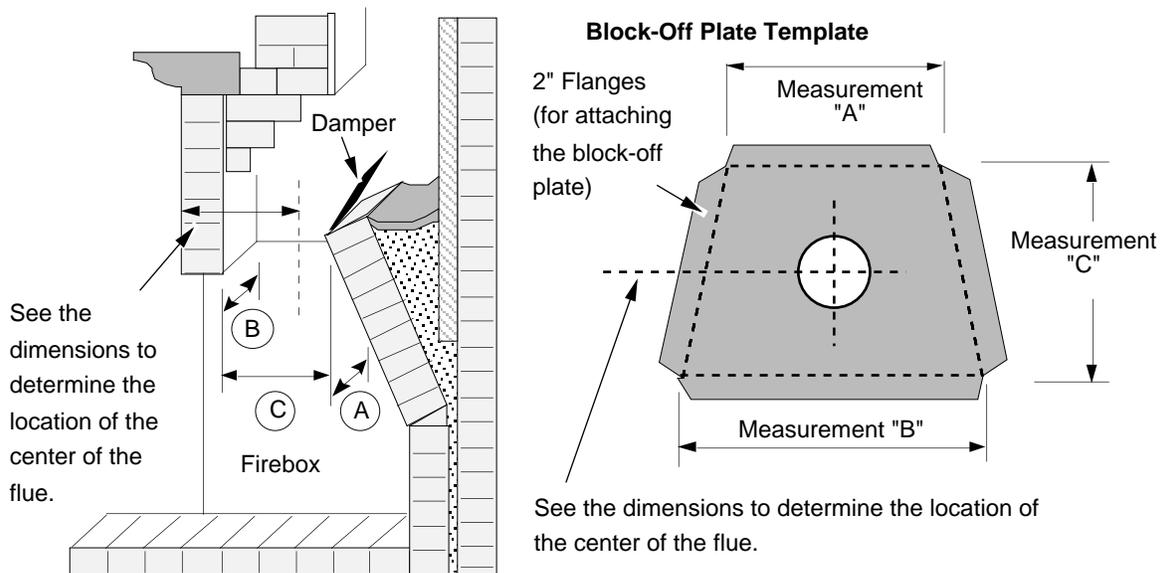

Figure 7
- Determine a location for the block-off plate at the top of the firebox below the damper area (make it high enough to allow installation of the connection pipe). The location should be level and in an area where it can be mounted easily. Measure the width at the rear ("A") and front ("B") of the firebox at the height where the block-off plate will be installed (see Figure 7). Then measure the depth of the location where the block-off plate will be installed ("C").